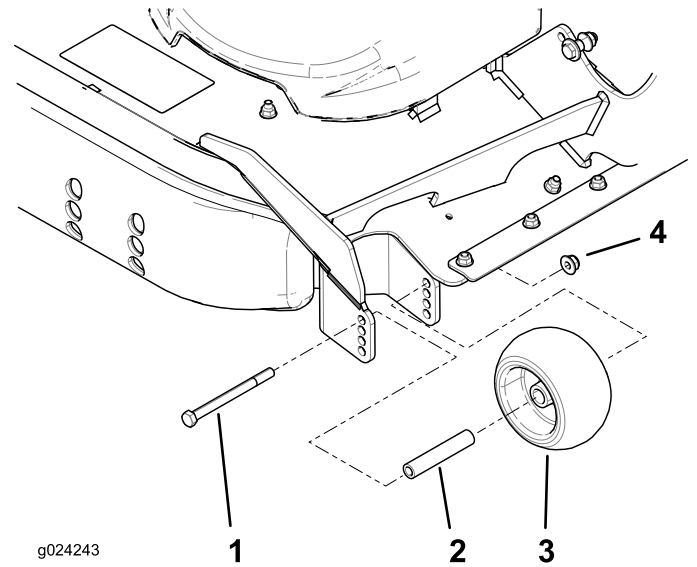
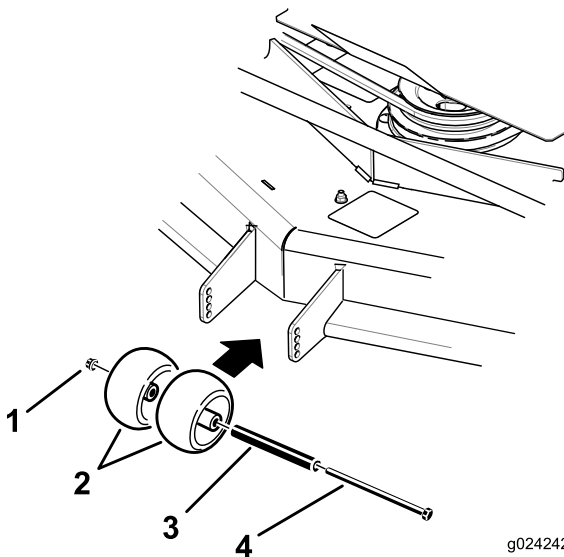

Figure 36
Figure 35
3. Adjust the anti-scalp rollers as shown in Figure 35 and Figure 36.